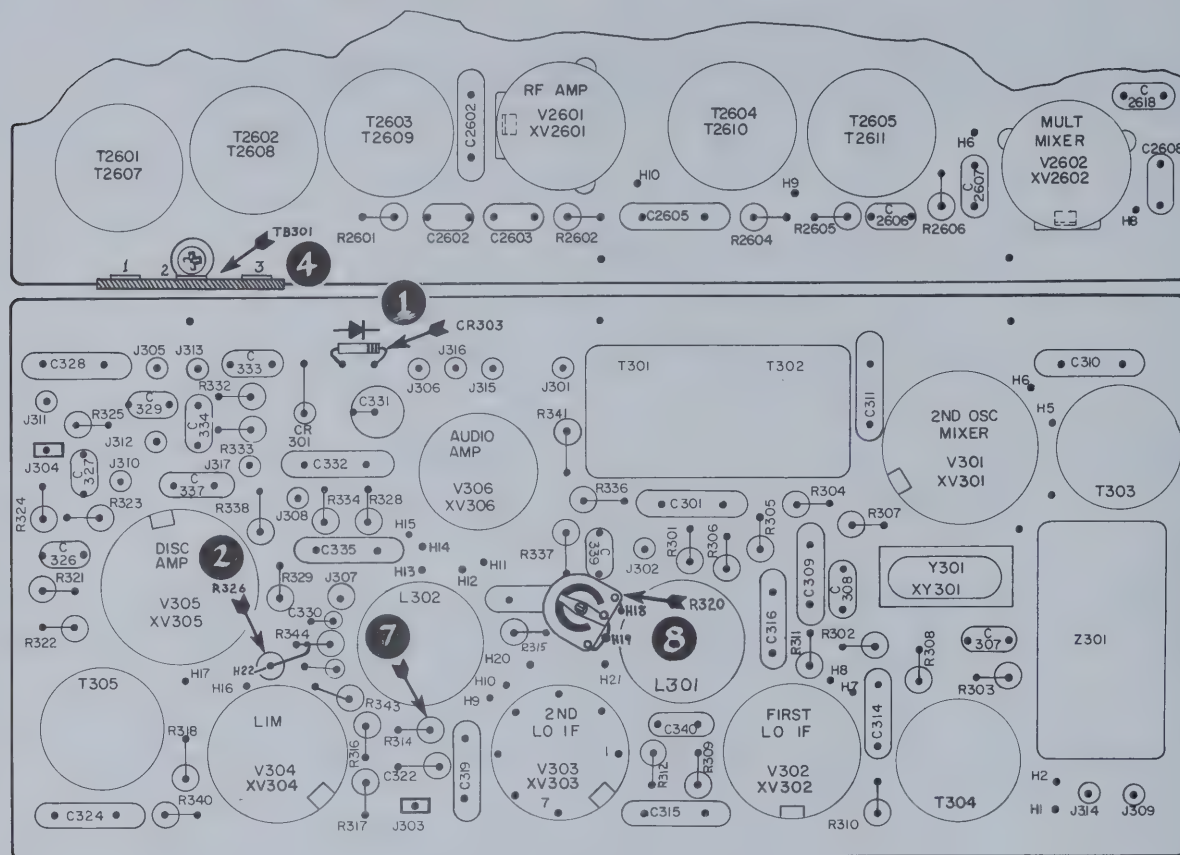

Figure 1 - Outline Diagram of IF/Audio Board Model 4EL12B10
1. Replace resistor R331 (220K-ohm, 1/2-watt) with diode CR303, observing the polarity indicated in Figure 1.
2. Add resistor R326 (560K-ohm, 1/2 watt) between hole H22 and the top terminal of R344 (see Figure 1).
4. Mount TB301 (see Figure 1).
7. Replace resistor R345 (390K-ohm, 1/2-watt) with R314 (68K-ohm, 1/2-watt), as shown in Figure 1.
8. Remove the DA bus between H20 and H21 (2nd Lo-IF cathode). Connect 1K-ohm potentiometer R320 between H18 and H19, as shown in Figures 1 and 3. Use insulating tape on the can of L301 to prevent shorting the leads from the pot.